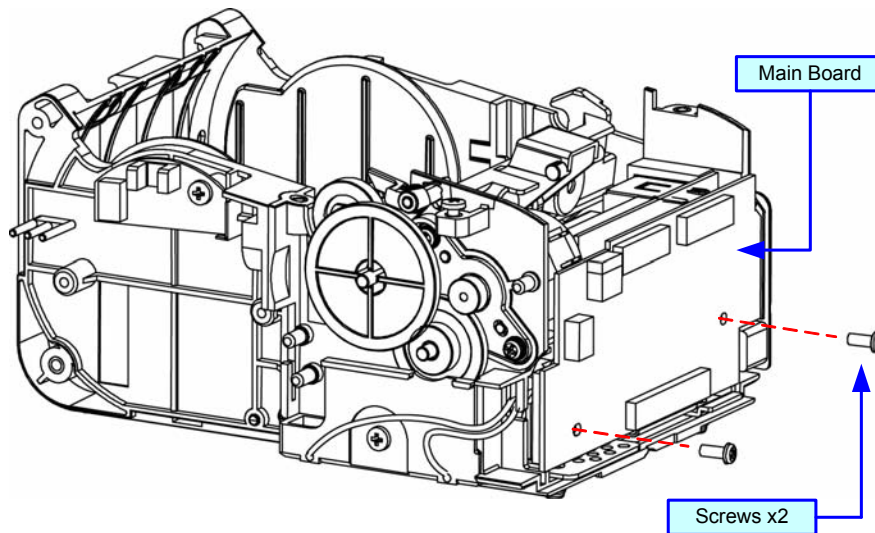

Figure 7-5, Main Circuit Board (A) Replacement
- 3 Remove the two screws securing main circuit board (A) to the printer chassis (Figure 7-5).